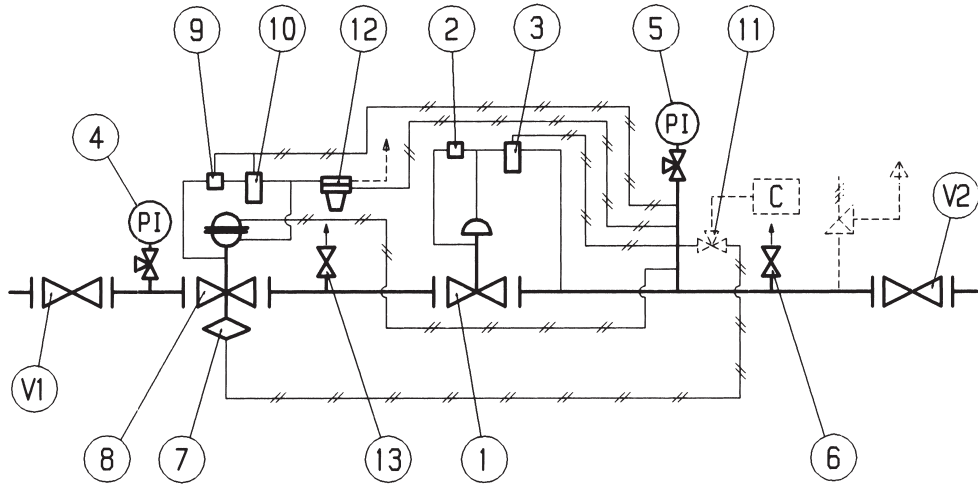

Fig. 21
**5.6 COMMISSIONING THE REGULATOR WITH REVAL 182 IN-LINE MONITOR IN LINE WITH VB/93 INCORPORATED SLAM-SHUT AND ACCELERATOR (FIG. 21)**